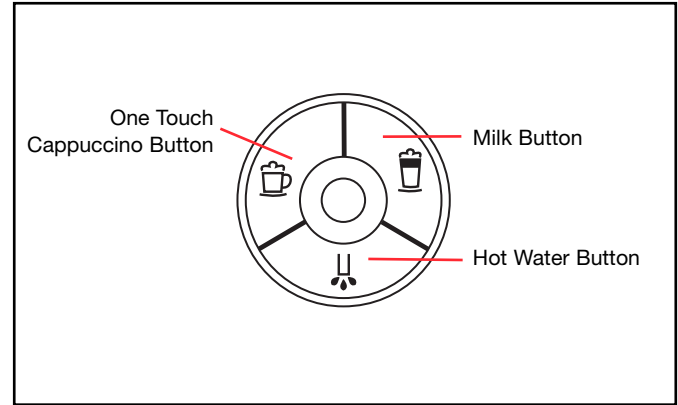

Fig. 4
11. Right Button Cluster (See Fig. 4)